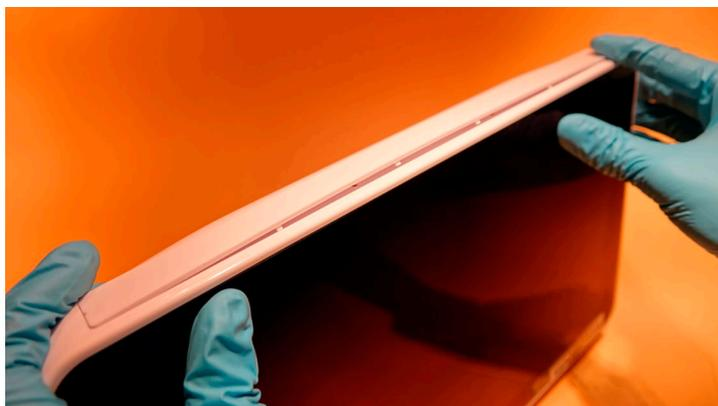

Figure 33 Click the name plates in place
- f) Click the name plates in place (Figure 33)**